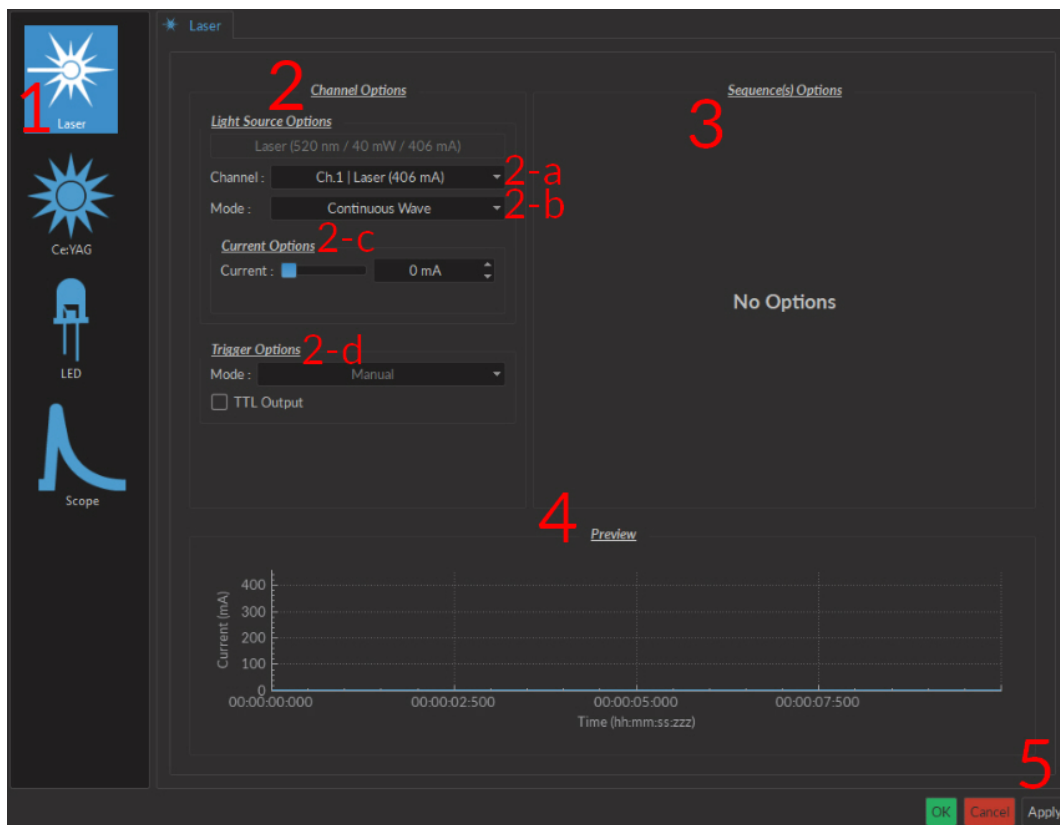

Figure 4.2: Light Source Channel Configuration Window
Each light source driver is separated into a number of **Channels**. Each channel controls a single light source. While each channel can be controlled in **Stand-alone** mode by the driver, additional functions can be accessed for these channels when the driver is connected to the Doric Neuroscience Studio. These function are used through the **Channel Configuration** window (Fig. 4.2).
1. The **Channel Types** (Fig. 4.2) are displayed on the left side of the window. These include **Laser** light sources, **Ce:YAG** light sources and **LED** light sources, as well as the **Scope** to measure signal using the driver.
2. The **Channel Options** box (Fig. 4.2) includes **Light Source Options** and **Trigger Options** for the given channel.
- a) The **Channel** (Fig. 4.2) drop-down list identifies which driver channel is currently being edited, assuming a driver with multiple channels.
- b) The **Mode** (Fig. 4.2) drop-down list includes each possible driver mode. These are used to control the pulse sequences emitted by the light source. The options related to this mode are detailed with the **Sequence Options**.
- c) The **Current Options** (Fig. 4.2) includes the slider used to control the current sent to the light source.
- d) The **Trigger Options** (Fig. 4.2) allow the selection of a number of trigger modes to activate a pulse sequence.
3. The **Sequence options** box (Fig. 4.2) is where sequence options are defined depending on the mode. The **Continuous wave**, **External TTL** and **External Analog** modes have no additional sequence options.
4. The **Preview** box (Fig. 4.2) displays a preview of the chosen sequence while in the **Continuous Wave**, **Square Sequences** and **Complex Sequences** mode.
5. The **Apply** button (Fig. 4.2) will generate the defined channel OR update an already configured channel with any changes.